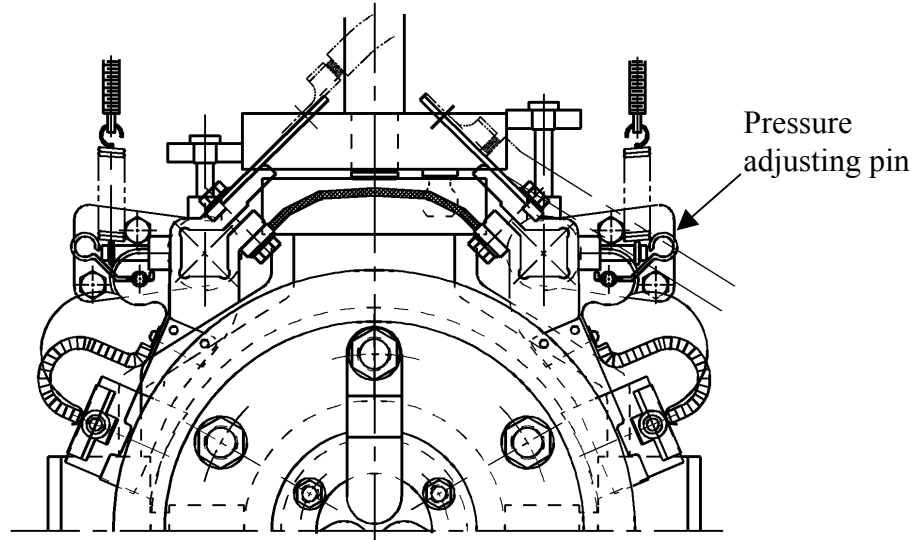

Fig. 15
- The brush pressure may be reduced after use, so it is necessary to re-adjust. For adjustment, please turn adjusting screw, pressure adjusting pin or pressure adjusting plate as shown in Fig.15 to obtain the correct tension ($=0.23 \times \text{brush cross sectional area in cm}^2 \pm 10\%$ kg).